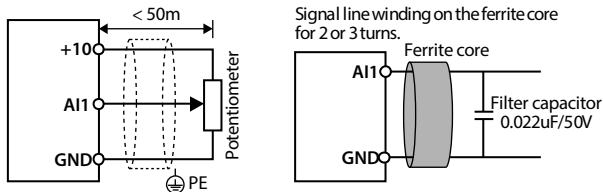
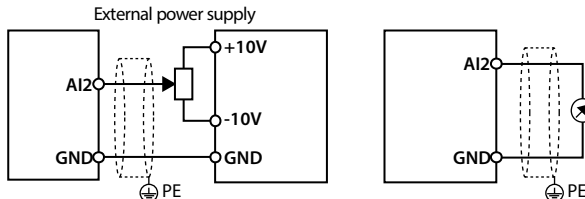

Figure 4-8 AI1 connection
Figure 4-9 AI2 connection
The AI1 is voltage input and the range is 0 - 10V, as shown in Figure 4-8.
2. In serious interference occasions, the analogue input signal should add filter capacitor and ferrite core, as shown in Figure 4-8.
AI2 are selected as voltage input and the range is -10 - +10V. When selecting internal +10V of HD20, refer to Figure 4-8. Selecting +/-10V external supply, refer to Figure 4-9.
AI2 are selected as current input and the range is 0 - 20mA, refer to Figure 4-9.